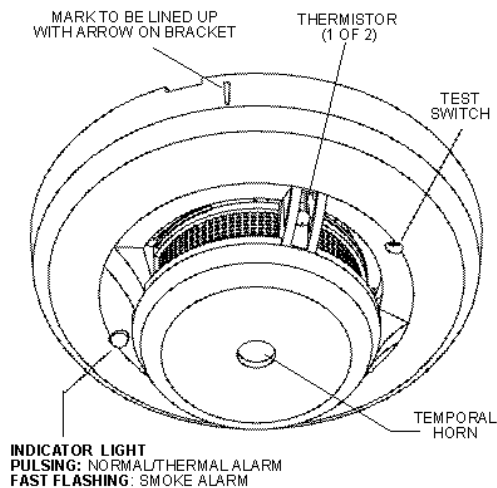

Figure 1. General View
- 2nd. When required to initiate a transmission for enrollment of the first ID, activate the **test switch** (see fig. 1) until the built-in horn sounds (see Para. 1.2B).